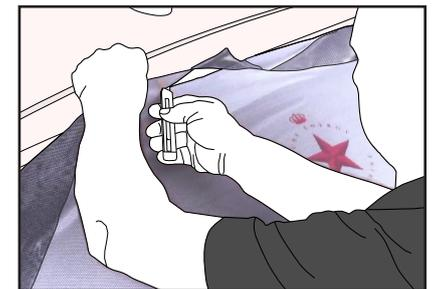

Figure 17
- › Cut the top of the film so that only 1 to 2 cm (0.4 to 0.79 in.) of the film overhangs the window. (FIG. 17)